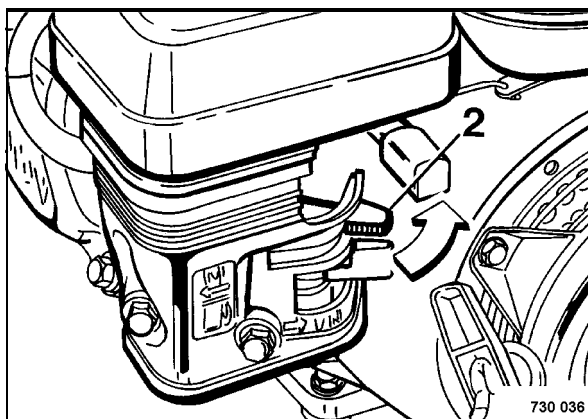

Fig. 12
- Slowly close the choke with lever 2 (Fig. 12) while the engine is warming up.